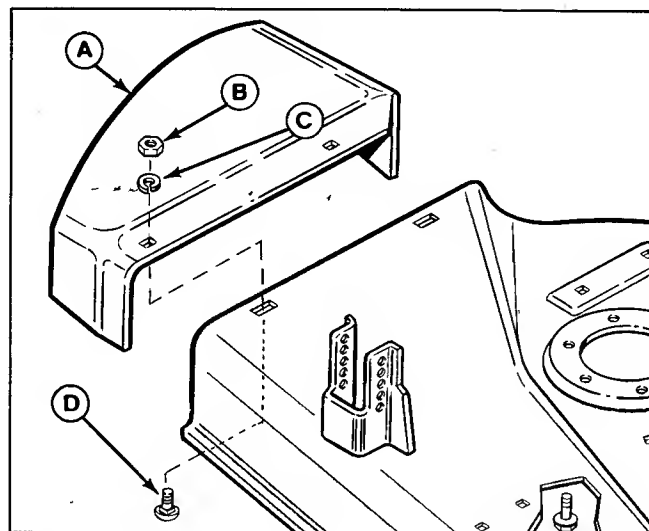

Figure 15.
3. Install the deflector (A, figure 15) with two 3/8-16 x 3/4" carriage bolts, lockwashers and nuts.